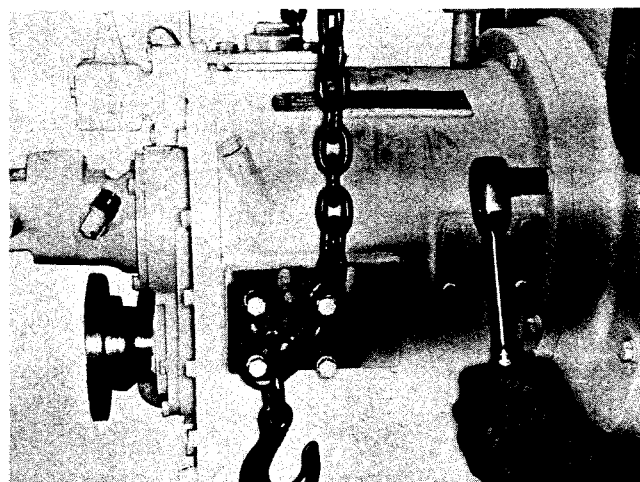

Fig. 5-2, (V22000). Removing marine gear
4. Remove capscrew, lockwashers and flatwashers securing marine gear to oil dam; slide gear assembly to rear to clear clutch assembly, Fig. 5-2. Discard gaskets.